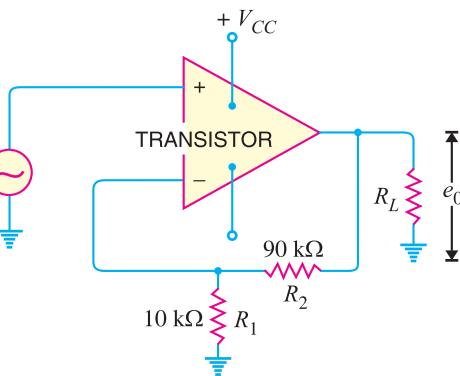

Fig. 13.9
**Example 13.12.** Fig. 13.9 shows the circuit of a negative voltage feedback amplifier. If without feedback,  $A_v = 10,000, Z_{in} = 10 \text{ k}\Omega, Z_{out} = 100 \Omega$ , find :